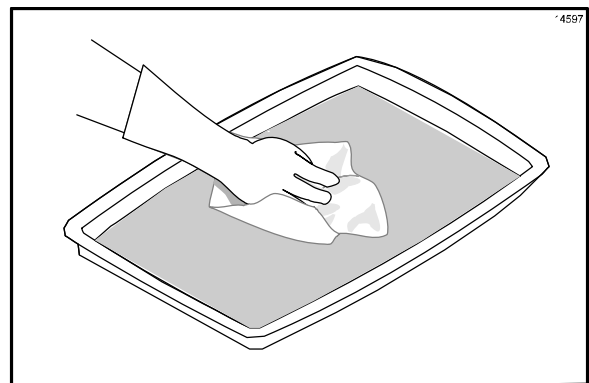

Figure 42
- Dip a clean, sanitizer-soaked grill cloth into the grill cleaner. Do not saturate the cloth. (See Figure 42.)